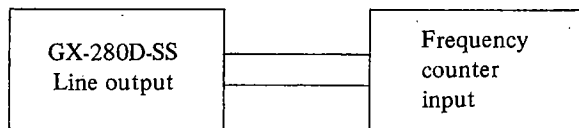

Fig. 1
As shown in Fig. 1, connect a Frequency Counter to the Line Output of Model GX-280D-SS. Playback a 1,000 Hz pre-recorded test tape. Take a Frequency Counter reading at the beginning, middle, and end of tape winding during playback. The maximum value of these respective readings will represent tape speed deviation.
- 1) Connect a frequency counter to the Line Outputs as shown in Fig. 1.